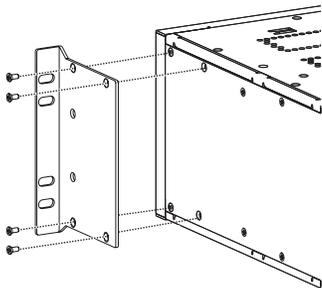

FIG. 1 Attach rack ears to sides of enclosure
1. Attach rack ears as shown in FIG. 1 (screws provided).